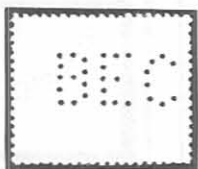

Figure 19
6. Spain BEC. Figures 19 and 20 show two types of BEC from Spain. One C is a flat top, and the other one is pointed. These both appear to have been used over the same period. They may have been used by the Banco Espanol de Credito.